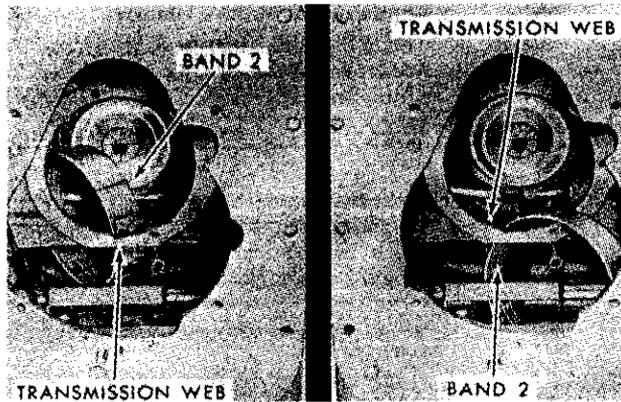

Fig. 302—To remove or install Band 2, it must be rotated around transmission web as shown.
**273. BANDS 1 AND 2, STRUTS AND ACTUATING LINKAGE.** After removing the "A" carrier and Direct Drive Clutch as outlined in paragraph 272, Bands 1 and 2 can be removed as follows: Loosen Band 1 adjusting screw and remove the band and strut. Turn adjusting screw in to remove from housing. Compress Band 2 and remove band struts. Remove Band 2 from housing by rotating it around cast web in top of transmission as shown in Fig. 302. With Band 2 removed, the actuating lever pivot pin for both Bands 2 and 3 can now be removed and the Bands 2 and 3 actuating levers removed from housing. However, it is usually not necessary to remove the pivot pin and actuating levers. Note: Servo 3 actuating lever is the longest lever.